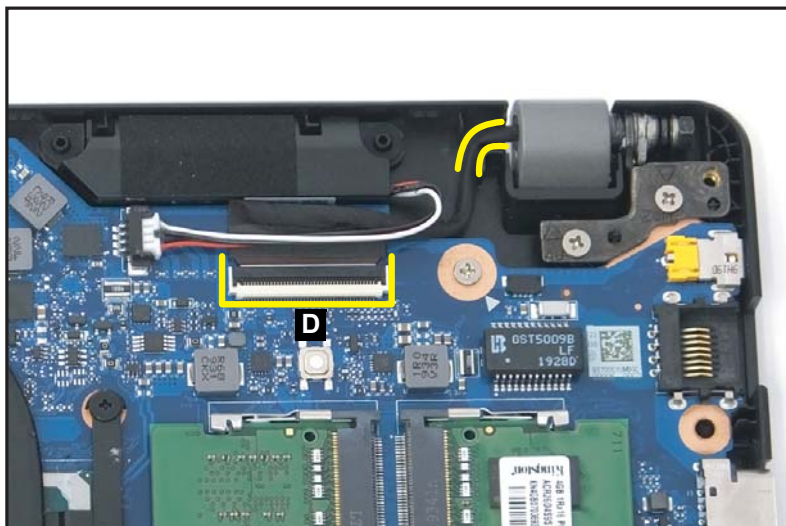

Figure 1-34. LCD Module Removal
7. Disconnect the eDP cable from the mainboard connector (D) (Figure 1-34).
8. Unroute the eDP cable from the guide on the top assembly (Figure 1-34).